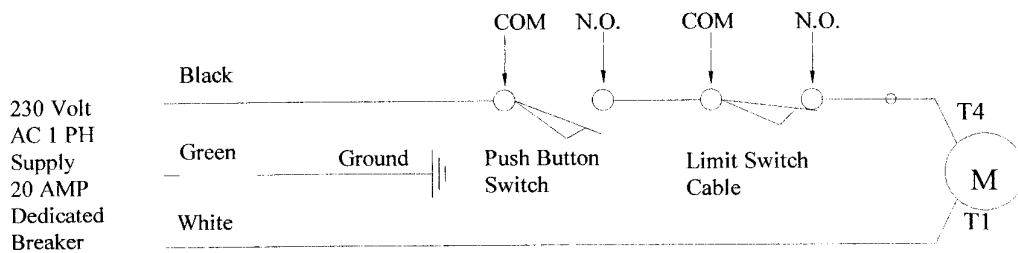

FIGURE 13
28. Establish electrical hook-up to 230V single phase as shown in Figure 13.